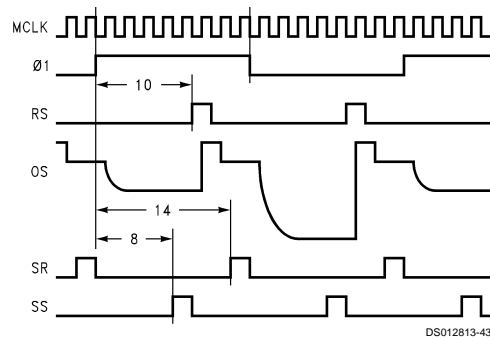

FIGURE 35. Typical Even/Odd Timing
The Mode is set to Even/Odd, RS Pulse Width is set to its minimum value, and RS polarity is positive. The timing, shown in Figure 35, is determined by the RS, SR, and SS registers. The RS pulse position (RS) is set to 10, dividing the pixel period so that the *signal* portion is available for the first 5 MCLKs following a  $\phi 1$  clock edge and the *black reference* portion appears during the last 2 MCLKs (following the 1 MCLK wide reset pulse). Sample Reference (SR) is set to 14, so it samples the black reference just before the next  $\phi 1$  clock edge. Sample Signal (SS) is set to 8, so it samples the black reference just before the next reset pulse. These values can be adjusted to account for differences in CCDs, CCD data delays, settling time, etc., but this is often not necessary.